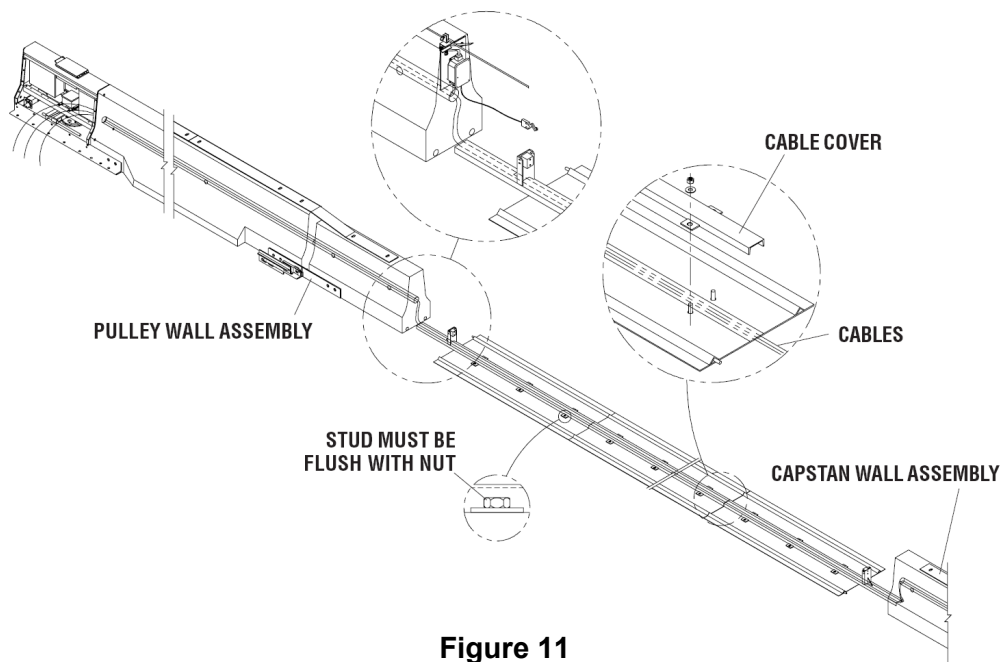

Figure 11
1) String the electrical control cables between the wall assemblies (Figure 11 & p. 48).